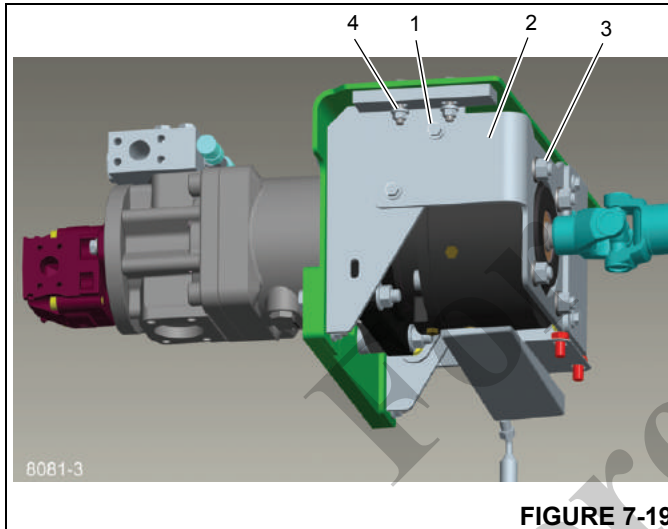
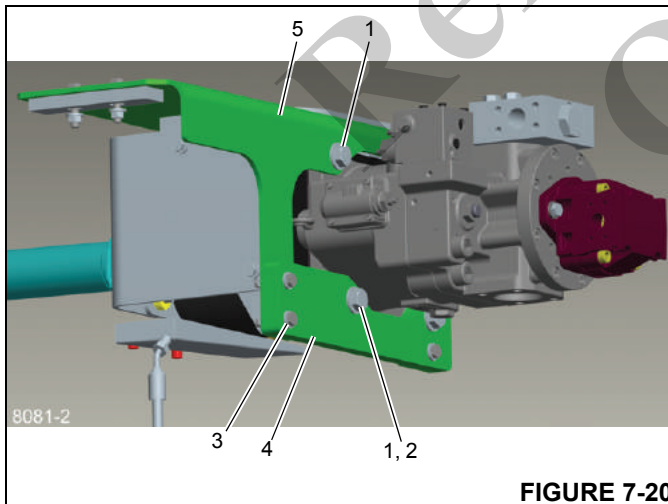

FIGURE 7-19
FIGURE 7-20
1. Remove the cap screws and washers (1, Figure 7-19) and double-nut plate securing the front support plate (2) to the mounting bracket.
2. Remove the cap screws, nuts and washers (1, Figure 7-20) that fastens the clutch, mounting bracket and pump together. A bushing (2), on the lower left bolt, will fall out when the hardware is removed.
3. Remove the three cap screws, nuts and washers (3) that secure the mounting plate (4) to the mounting bracket (5).
5. Using a short Allen wrench or a tool, made by locking nuts on a 7/16 bolt, inserted into the socket head cap screws, and held with a wrench, remove the socket head cap screws, nuts and washers (3, Figure 7-19) that secures the front support plate to the clutch.
1. Assemble bottom plate (4, Figure 7-20) to mounting bracket (5) around the pump body using the three bolts, washers, and nuts (3).
2. Slide the clutch onto the pump spline, install the bushing (2) removed in step 1 above and fasten the assembly together with the cap screws, nuts and washers (1, Figure 7-20). Torque hardware, refer to *Fasteners and Torque Values*, page 1-13.
3. Loosely attach the front support plate (2, Figure 7-19) to the front of the clutch using the nuts, washers and socket head cap screws (3). Secure the front support plate to the mounting bracket with the cap screws, washers and double-nut plate (1). Gently tighten hardware allowing assembly to settle into place. Torque all hardware according to *Fasteners and Torque Values*, page 1-13.
1. Using the lifting device place the clutch/mounting bracket/pump assembly onto the crane and loosely assemble with the cap screws, nuts and washers (4, Figure 7-19).
6. Torque hardware (4, Figure 7-19), refer to *Fasteners and Torque Values*, page 1-13.